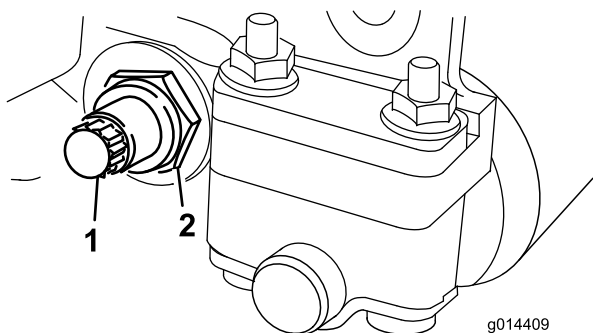

Figure 23
3. On each side of the machine, loosen the locknut securing the bedbar bolt (Figure 23).
4. Remove each bedbar bolt allowing the bedbar to be pulled downward and removed from the machine bolt (Figure 23).